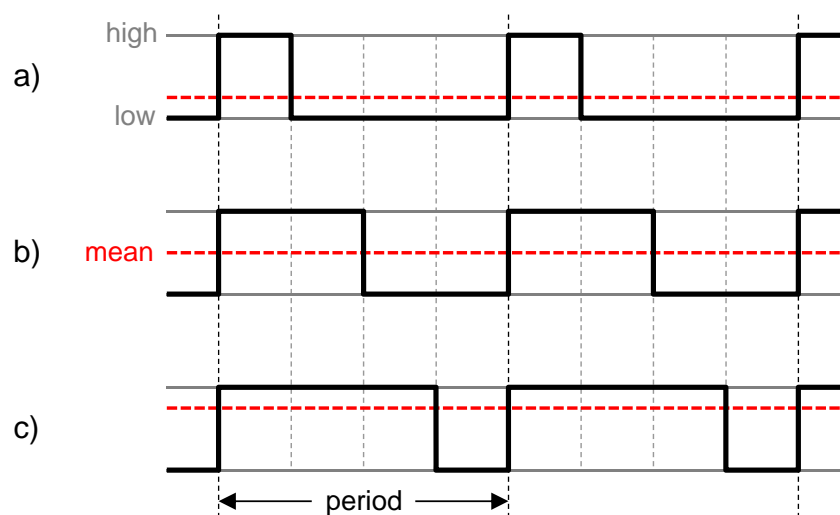

Figure 1: PWM Signals with 25%, 50% and 75% Duty Cycle and respective Mean Values.
Pulse Width Modulation (PWM) is an efficient way to control analog circuits using digital signals. It is used in a wide variety of applications. As its name suggests, the control information is modulated in the width of a pulse. Figure 1 depicts three example PWM signals. Signal a) is a PWM signal with 25% *duty cycle*, that is, the signal is *high* for one quarter of the time in one *period* and is *low* for the rest of the time. Signals b) and c) have a duty cycle of 50% and 75%, respectively.
The mean value of a PWM signal (shown as dashed horizontal lines in figure 1) is an analog voltage value between 0 V and the high voltage of the digital signal, typically 5 V. This means that if the period of the PWM signal is reasonable short and the device attached to it behaves inertially, it will actually respond as if controlled by an analog signal with that analog voltage!
- What are the mean voltages corresponding to the PWM signals shown in figure 1, given a high voltage of 5 V?